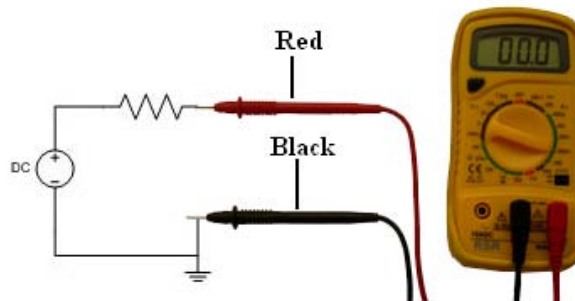

Figure 1.14: Measuring Current
2. To measure current, the circuit must be broken to allow the ammeter to be connected in series in the circuit. The ammeter becomes part of the circuit's connection. See Figure 1.14